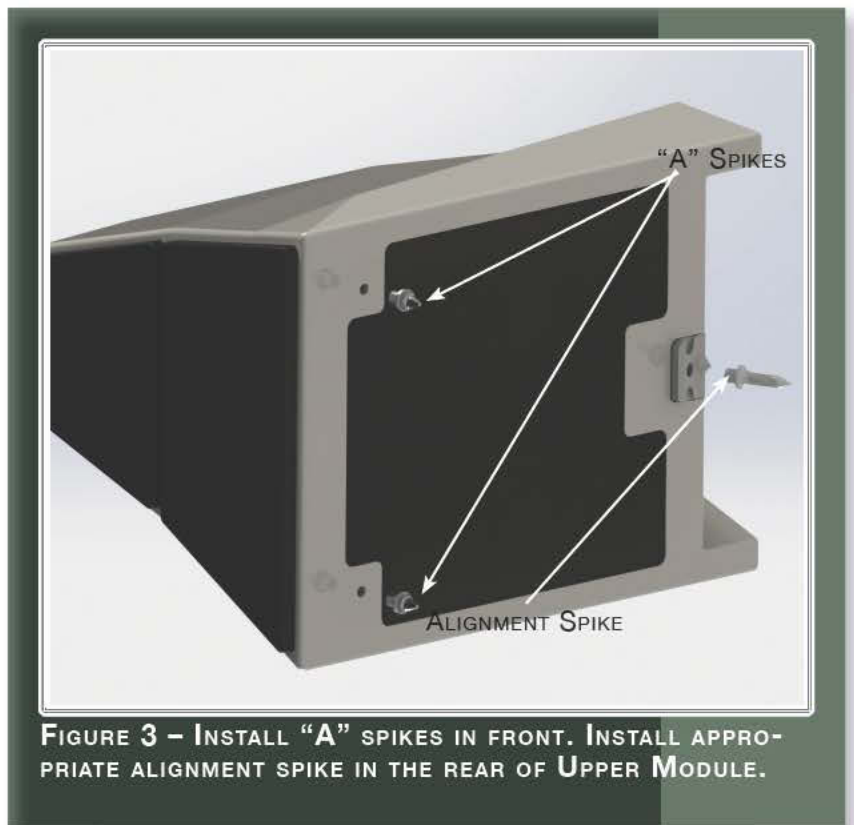

FIGURE 3 – INSTALL “A” SPIKES IN FRONT. INSTALL APPROPRIATE ALIGNMENT SPIKE IN THE REAR OF UPPER MODULE.
The Upper Module uses the combination of three spikes installed into the bottom of its enclosure. The spikes provide proper coupling of the Upper Module to the Woofer Module and are used to correct propagation delay. “A” spikes are always installed in the front two positions (the threaded holes located near the bottom front of the enclosure). The spike-type is stamped in the round top of the spike. These two spikes screw into the Upper Module as shown in Figure 3. The spikes should be screwed in all the way, until they are hand tight. Do not over tighten spikes.
1. Install the front pair of short (A length) spikes into the bottom of each module (see Figure 3).